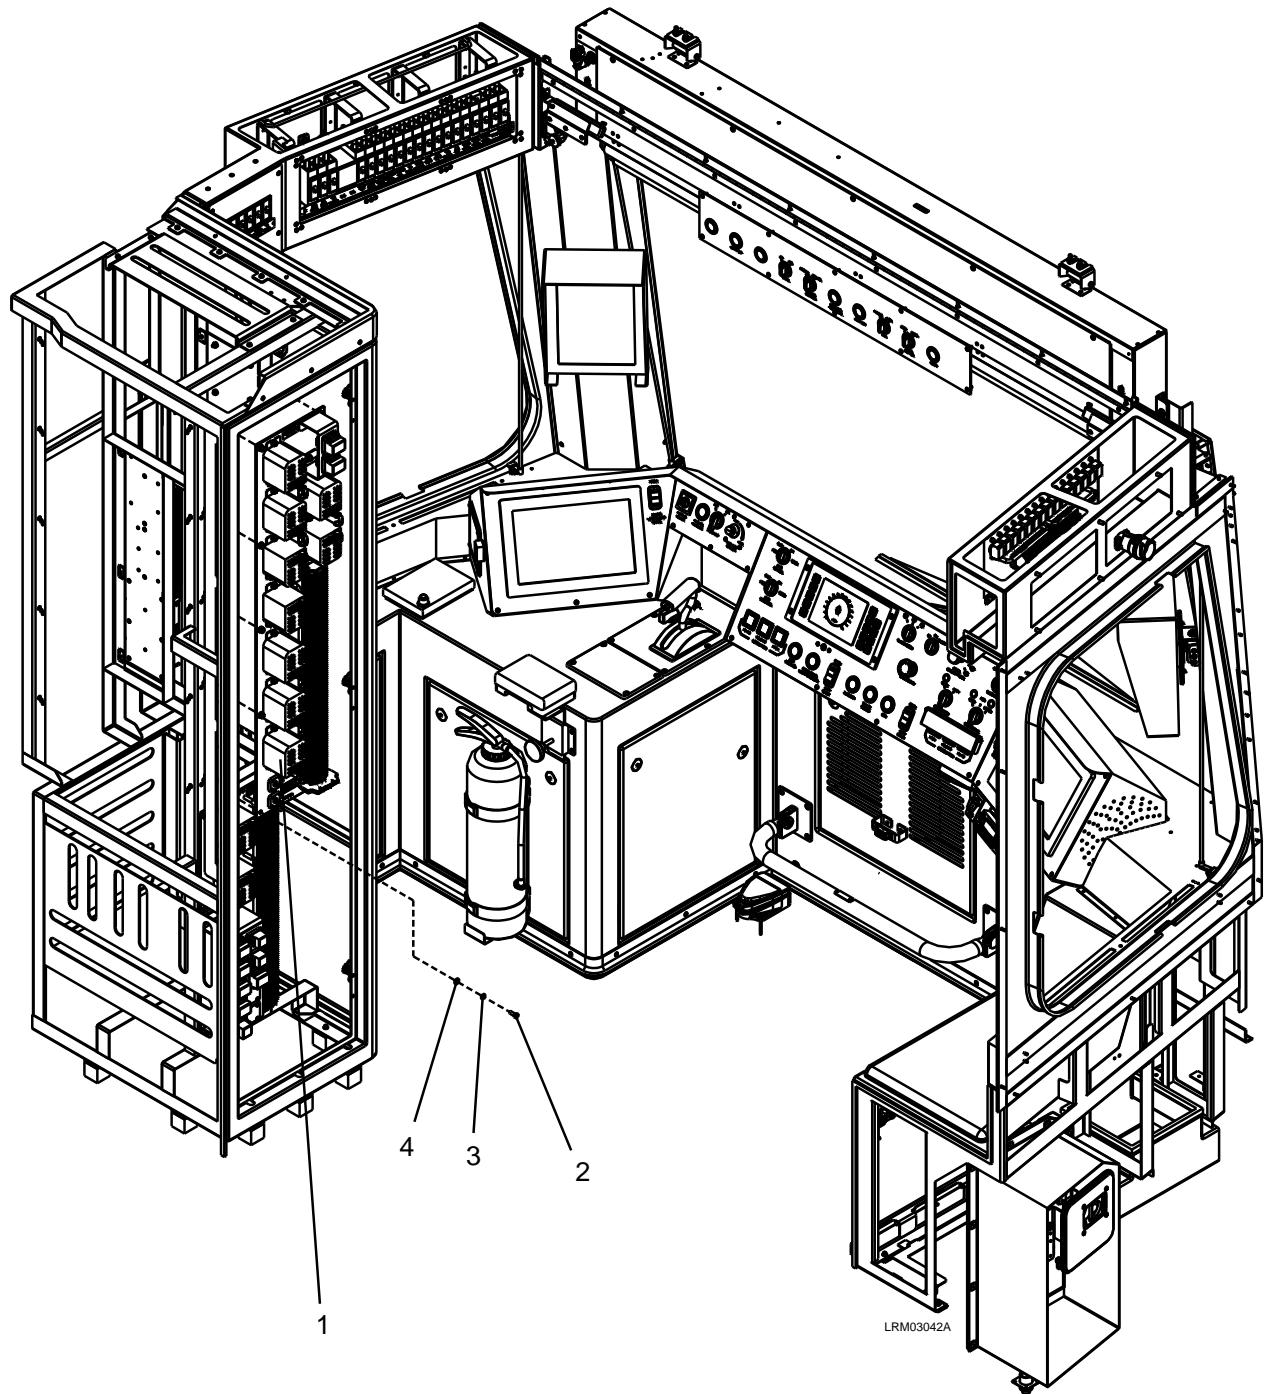

Figure 7-36: CRP2A and CRP2B Panel
2. Disconnect the WAGO terminal electrical connections to the CRP2A / CRP2B Panel (1). See Figure 7-36.
3. Remove the ten M6 x 16 bolt (2), M6 lock washers (3), and M6 plain washers (4).
4. Carefully remove the CRP2A / CRP2B Panel (1).